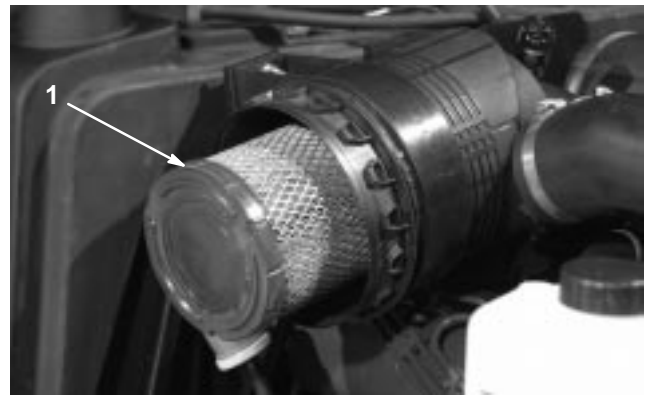
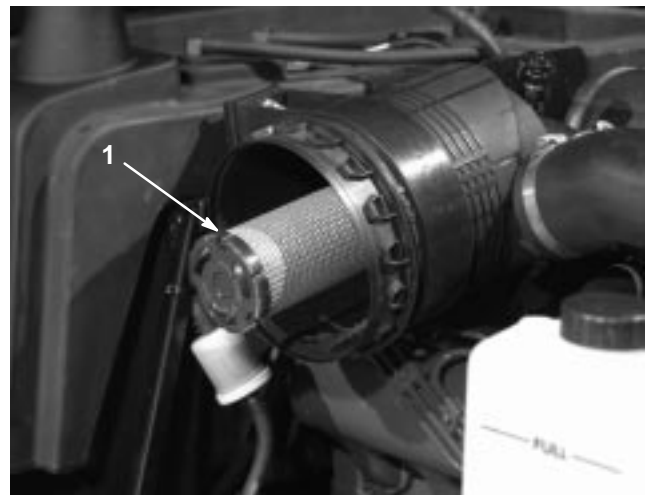

Figure 45
Figure 46
2. Gently slide the primary filter (Fig. 45) out of the air cleaner body to reduce the amount of dust dislodged. Avoid knocking the filter against the air cleaner body. **Do not** remove the safety filter (Fig. 46).
Important Never attempt to clean the safety filter (Fig. 46). Replace the safety filter with a new one after every three primary filter services.